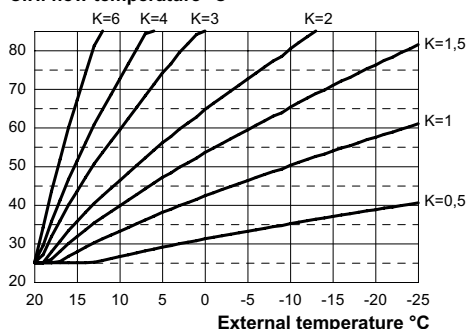

Fig. 8.6
If the boiler is **EQUIPPED** with the remote control (optional) refer to Fig. 8.6. In this case K setting must be done from the remote control.
The K coefficients is a parameter that increases or reduces the boiler flow temperature when the outside temperature changes. When installing the external probe it is necessary to set this parameter based on the efficiency of the heating system in order to optimize the flow temperature (Fig. 8.6).
E.g. In order to have a flow temperature at the heating system of 60°C with an external temperature of -5°C, set a K at 1.5 (sectioned line in Fig. 8.6).
- Using keys 17 or 18 it is possible to change the value of parameter 15 from a minimum of **01** to a maximum of **60** based on the selected bend of the K coefficient in Fig. 8.6 (the value read on the display corresponds to K coefficients decimal values).